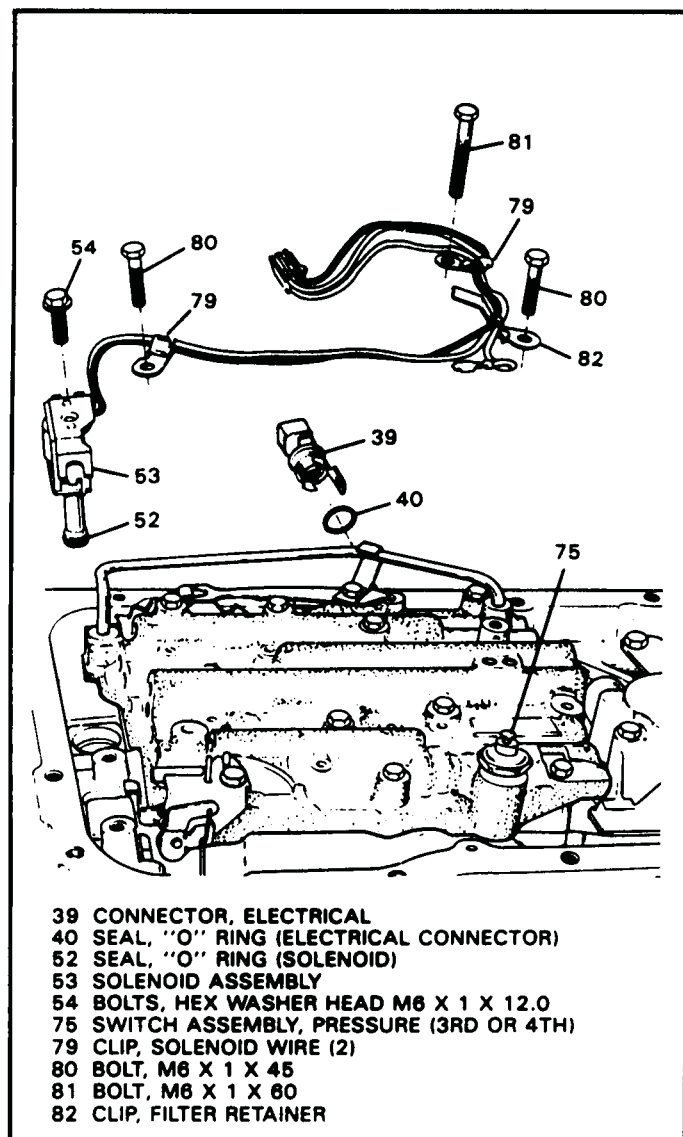

Figure 158
35. Install new "O" ring onto the lock-up solenoid and lubricate with small amount of "Trans-Jel" as shown in Figure 158.
36. Install the lock-up solenoid into the pump bore and install retaining bolts as shown in Figure 158.
37. Install the wire harness clips and the remaining valve body bolts as shown in Figure 158.
40. Connect the wiring harness internally to case connector as shown in Figure 158.
41. Connect the wire harness to the fourth clutch switch (See Figure 158).